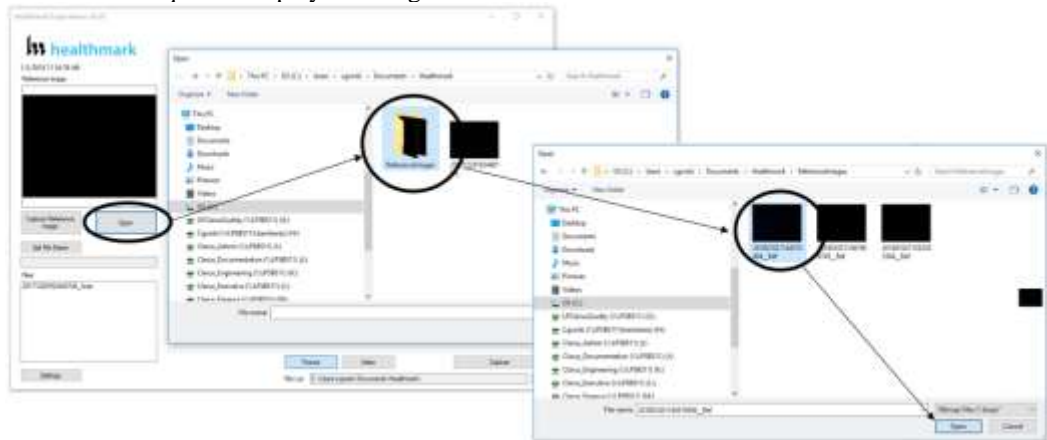

Figure 12
- A. Click the *Open* button (Fig. 12)